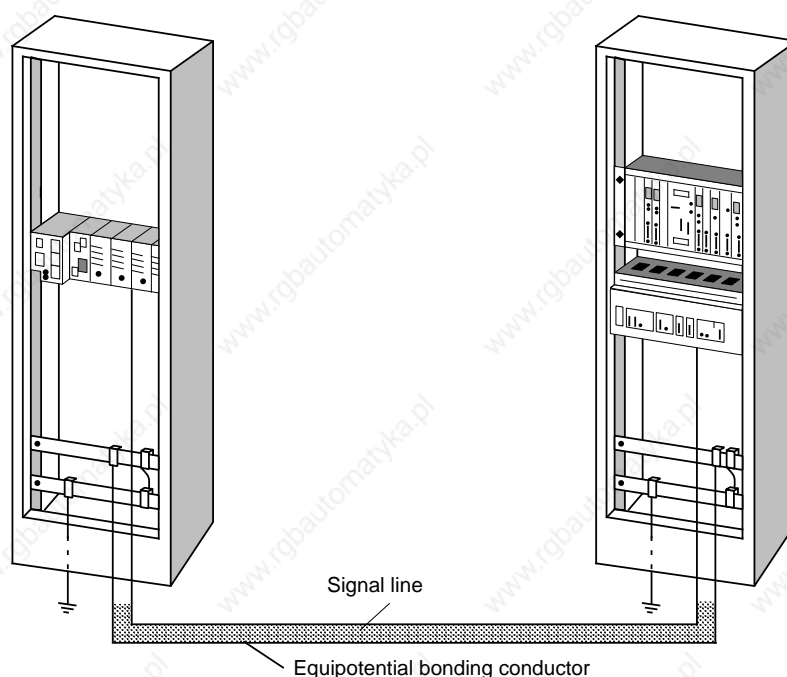

Figure 3-35. Laying Equipotential Bonding Conductor and Signal Cable
- The equipotential bonding conductor should be laid in such a way as to achieve a relatively small contact area between equipotential bonding conductor and signal cables (see Figure 3-35).